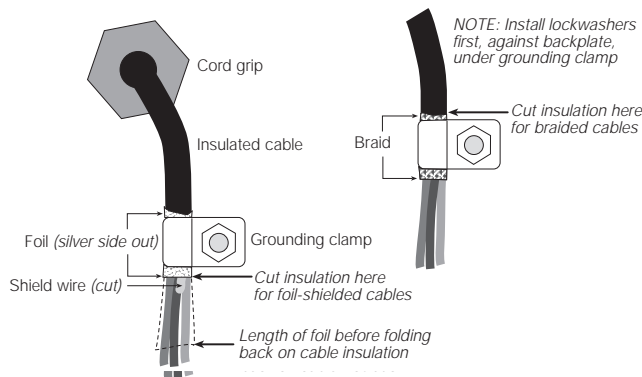

Figure 2-2. Grounding Clamp Attachment for Foil-Shielded and Braided Cabling
- For cables with foil shielding, strip insulation and foil from the cable half an inch (15 mm) past the grounding clamp (see Figure 2-2). Fold the foil shield back on the cable where the cable passes through the clamp. Ensure silver (conductive) side of foil is turned outward for contact with the grounding clamp.
- For cables with braided shielding, strip cable insulation and braided shield from a point just past the grounding clamp. Strip another half inch (15 mm) of insulation *only* to expose the braid where the cable passes through the clamp (see Figure 2-2).
- Route stripped cables through cord grips and clamps. Ensure shields contact grounding clamps as shown in Figure 2-2. Tighten grounding clamp nuts.